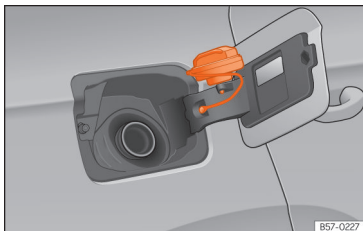

Fig. 185 Fuel tank flap with tank cap attached.
- Place it in the space on the hinge of the open flap >>> Fig. 185.